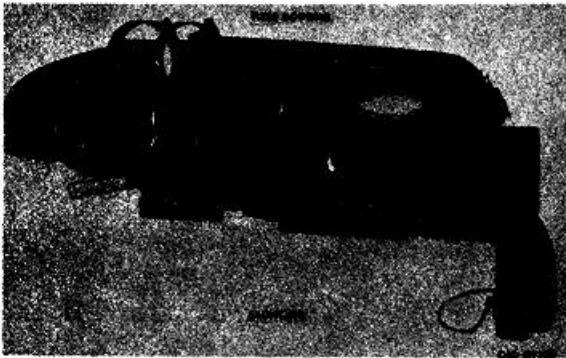

Figure 5. Fixed housing and launcher.
7. Fixed Housings (fig. 5)
8. Launcher (fig. 5)